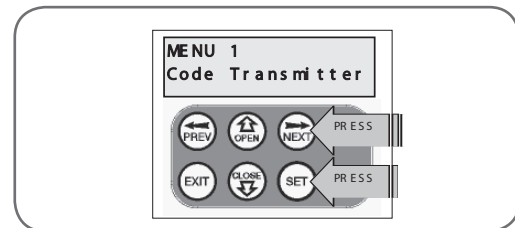

fig 34
1. Press NEXT to navigate to Menu 1 (Fig. 34).